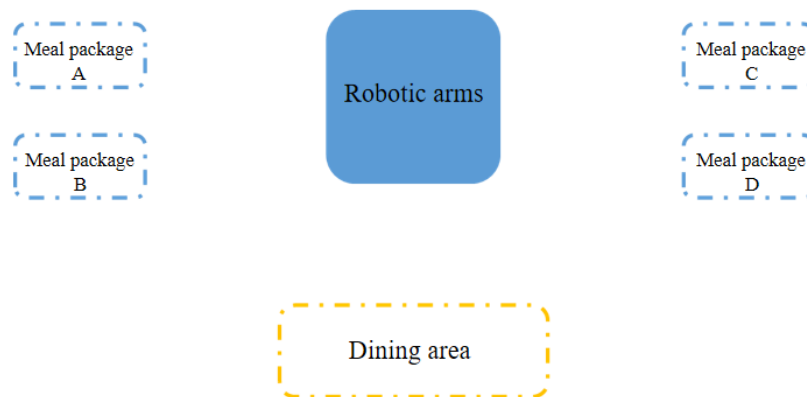

Figure 5.11 Placing the equipment
(1) Prepare Hardware
Step 2: Power on the robotic arm, connect the robotic arm to the personal computer (PC), and install the end of the suction cup.
Step 3: Place the equipment, as shown in Figure 5.11.